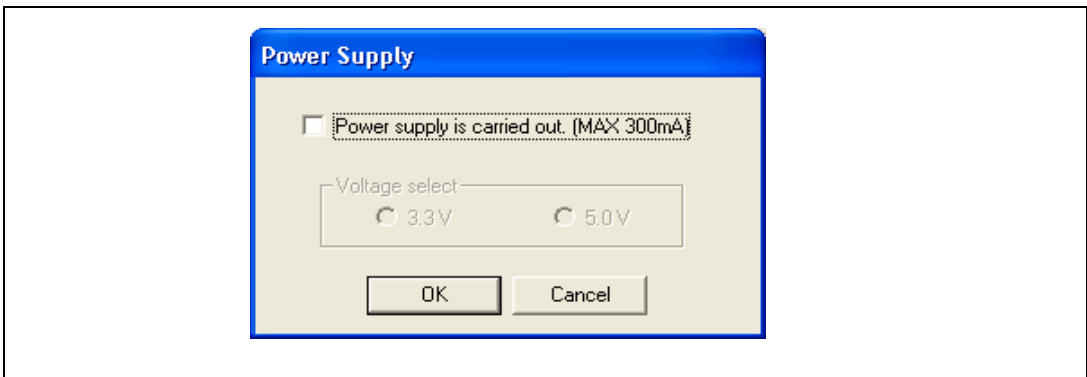

Figure 3.17 [Power Supply] Dialog Box
9. When [Power supply is carried out. (MAX 300mA)] is not checked, the dialog box shown in Figure 3.17 will be displayed.